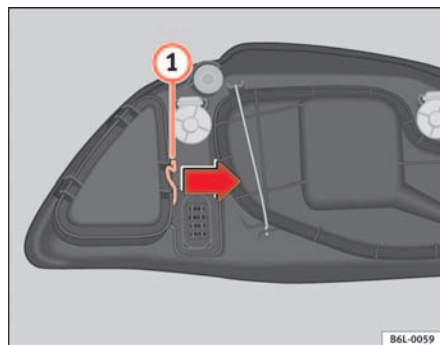

Fig. 144 Side lights
- Remove the loops (1) ⇒ fig. 144 in the direction of the arrow and remove the cover.